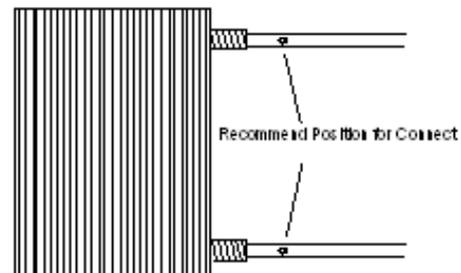

Fig 5 Position for Connect
It is very important for the install position of switch. Suitable position is of advantage to the accuracy of DP Switch. The connector should be close with the Water Inlet of Heater Exchanger or Pump or Water Filter, making the Water Input as the position of measure pressure. As Fig 5.
- 2、 Drill in pipeline, Fig 5。